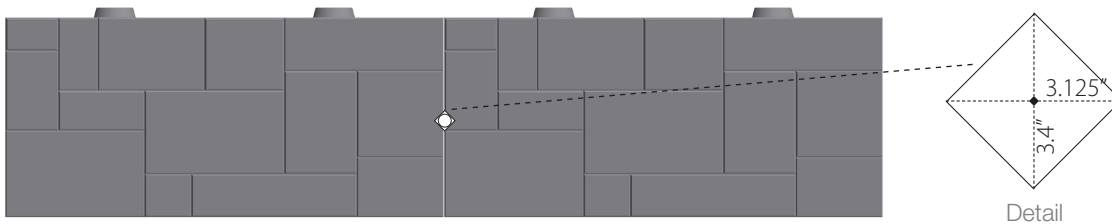

Figure 11: Drainage Outlet
- Hole for drainage outlet will be formed at the vertical seam of where two blocks meet (Figure 11).
- Locate each drainage pipe center point on each block (Figure 11).
- Measure up and down 3.4" on each block from center point (Figure 11).
- Measure in 3.125" on each block from center point (Figure 11).